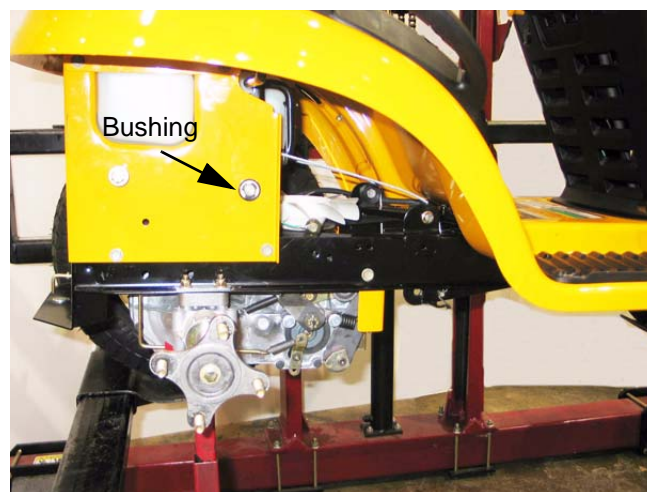

Figure 12.1
- 12.1. The most common item on the lift shaft assembly to require service is likely to be the bushings that support the shaft. These bushings are visible beneath the fender. See Figure 12.1.